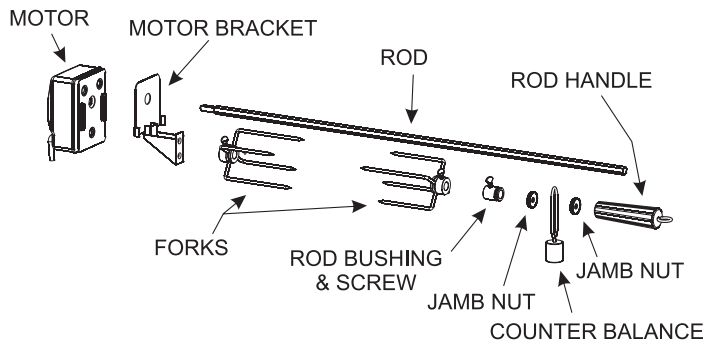

Figure 8
9. Remove all components from the carton. See Figure 8.